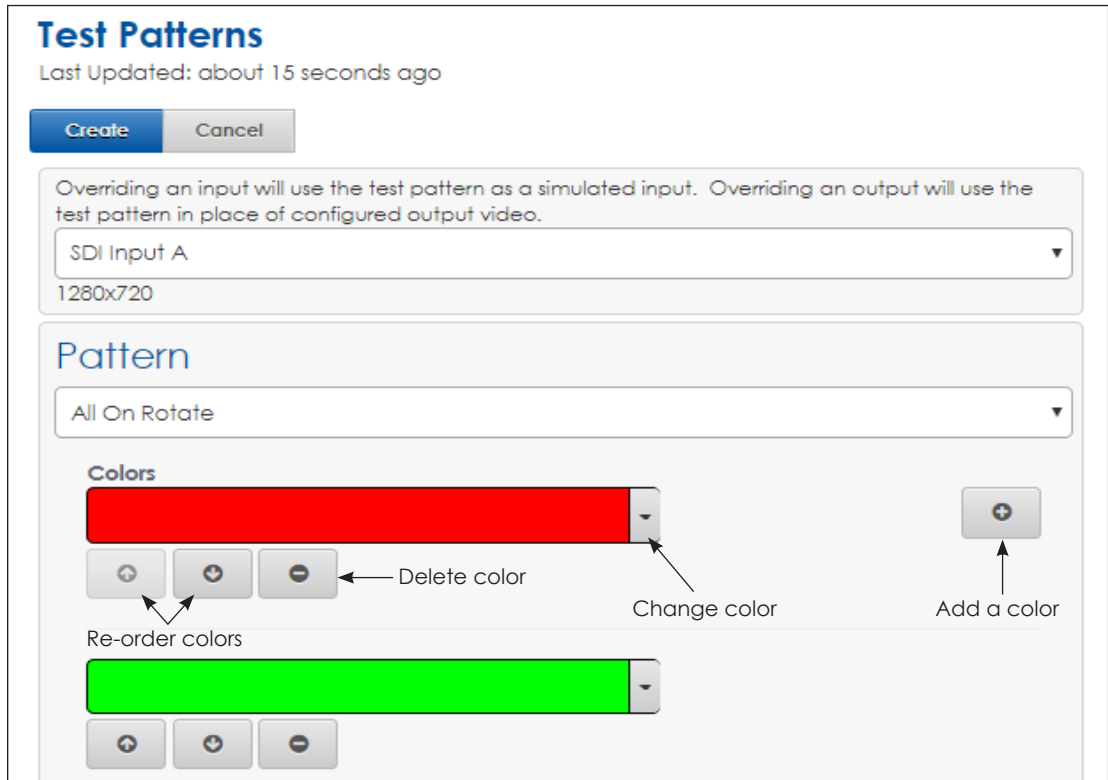

Figure 77: Configure Test Pattern Parameters
4. Configure the selected test pattern. Refer to the example in **Figure 77** and **Test Pattern Details (p.46)**.
This pattern shows all modules as a solid color rotating through a sequence of different colors. Choose the colors to display using the color drop-down menu. Change the order that the colors are shown with the up and down arrows. Select the hold time that each color is shown on the display. The default colors are red, green, and blue with a hold time of 5 seconds. Refer to **Figure 77**.